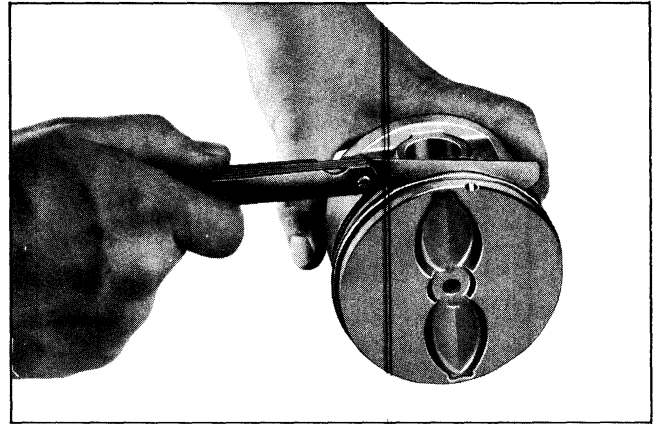

Fig. 6-72 Measuring Side Clearance of Ring in Groove
5. Measure side clearance of rings in ring groove (Fig. 6-72) as each ring is installed. Clearance with new pistons and rings should be as follows: